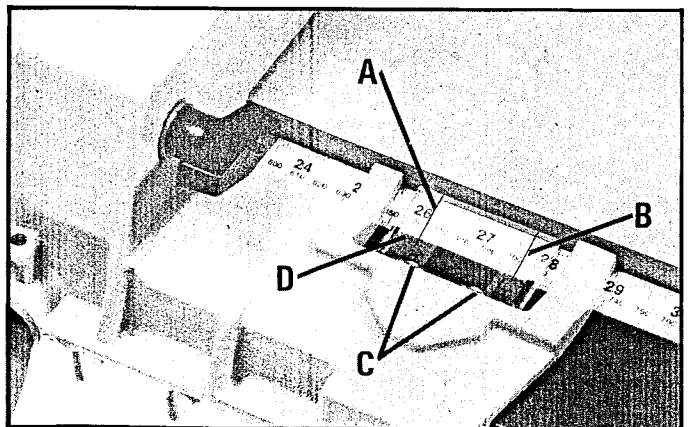

Fig. 68
The distance the fence is positioned away from the blade is indicated by the two witness lines (A) and (B) Fig. 68, located on the cursor (D). Witness line (A) indicates the distance the fence is away from the blade when the fence is in the horizontal position and witness line (B) indicates the distance the fence is away from the blade when the fence is in the vertical position. If it is necessary to adjust cursor (D), make a test cut with the fence in either the vertical or horizontal position, measure the distance of the finished cut and move the cursor (D) by loosening the two screws (C) Fig. 68.